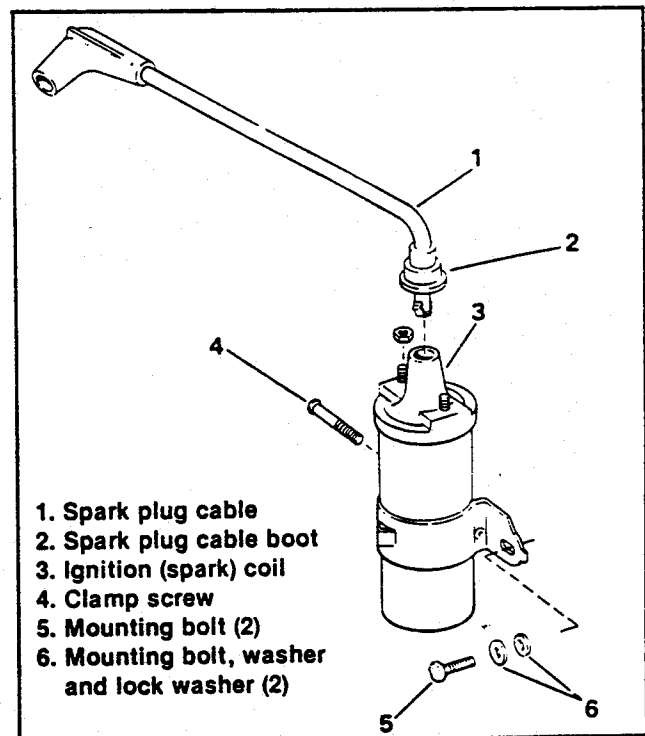

Figure 8-16. Ignition Coil
1. Disconnect terminal wires (1) and (2) and spark plug wire (3).
2. See Figure 8-16. Remove the two mounting bolts, washers and lockwashers (1). Remove the coil.
3. See Figure 8-16. Loosen coil clamp screw (4) and lift coil out.
1. See Figure 8-16. Mount coil (3) to bracket (7), fasten coil bracket (7) using washers, lockwashers, nuts (6) and mounting bolts (5).
3. See Figure 8-16. Connect spark plug wires (1) to center post on coil (3).